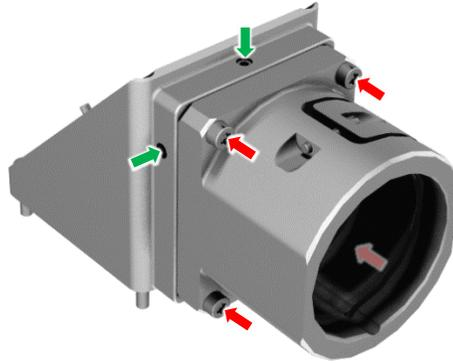

Figure 13: Adjusting for offset misalignment at the LIA
- ii. Loosen the 4 fixing-screws; see Figure 13 on page 50, **red** arrows.
- iii. Use the adjusting screws; see Figure 13 on page 50, **green** arrows; to bring the laser beam to the thermopile center.
15. Tighten the 4 fixing-screws, highlighted by red arrows in Figure 13 on page 50.